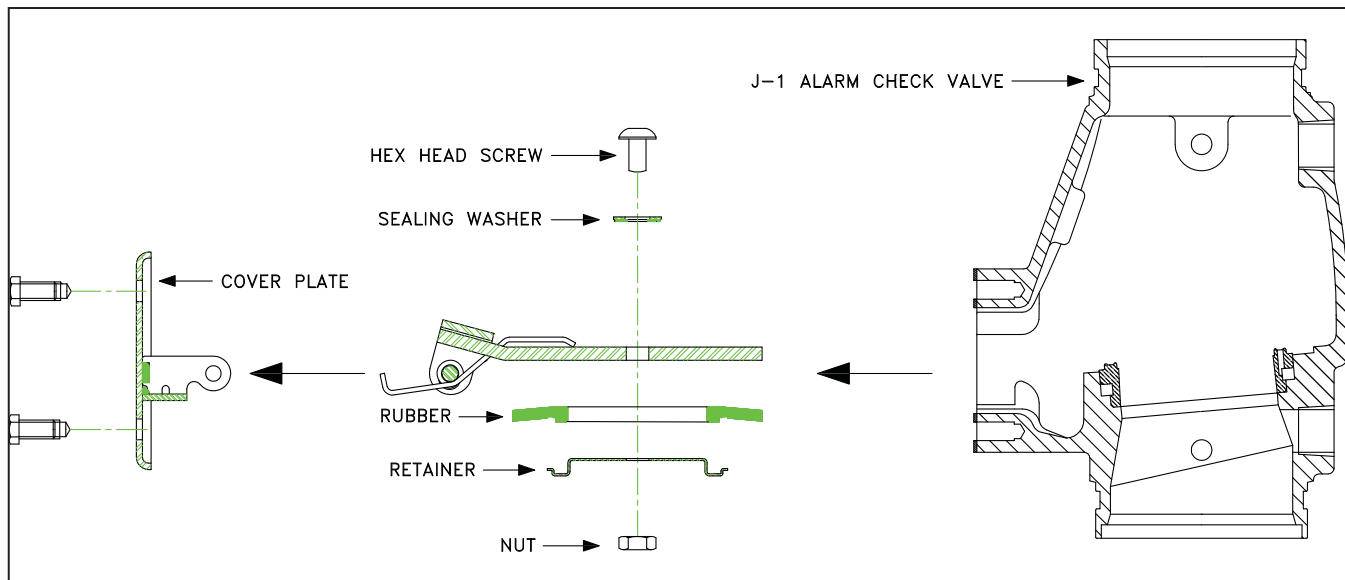

Figure 51
2. To remove the clapper rubber (Figure 51):